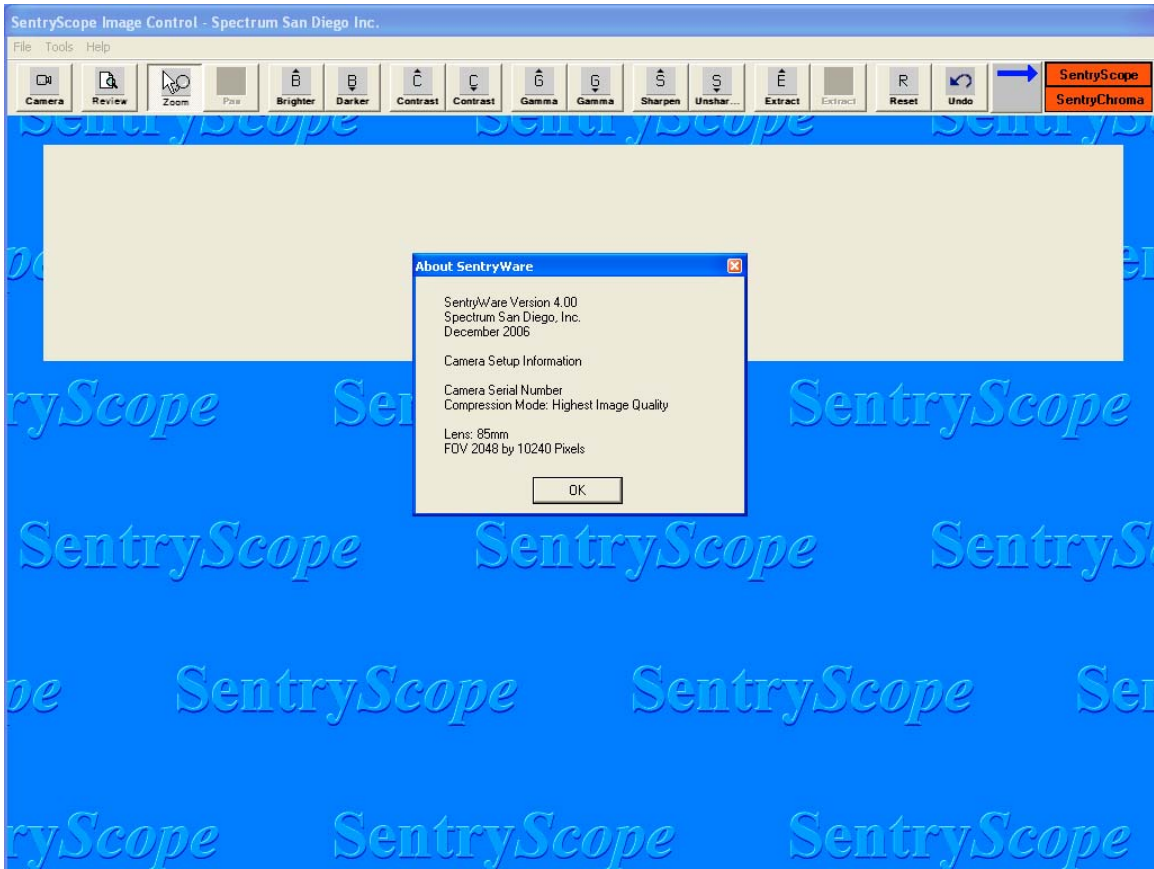

Figure 6
Navigate to the desired directory and select “OK”. The diagnostic file will be written to this location for subsequent analysis by Spectrum San Diego. From the “Help” pull-down menu select “About” and the following screen will appear (Figure 6) showing software release and camera setup information:
There are seventeen (17) operational icons from left to right in Figure 6: